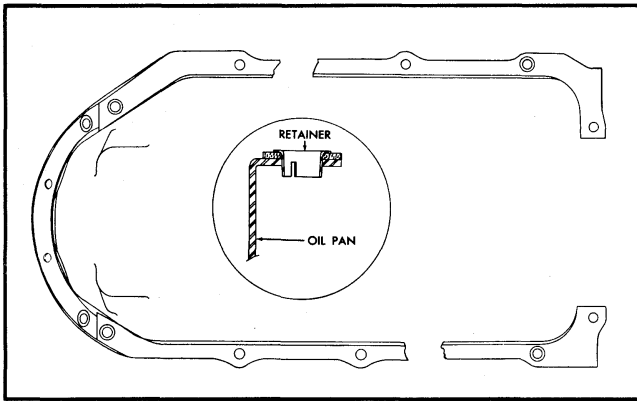

Fig. 6-124 Installing Oil Pan Gasket Retainers
1. Install new gaskets on oil pan using gasket retainers (Figs. 6-124, 125).